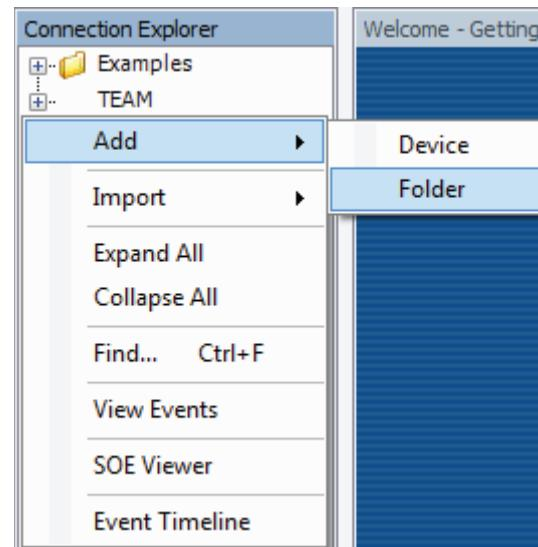
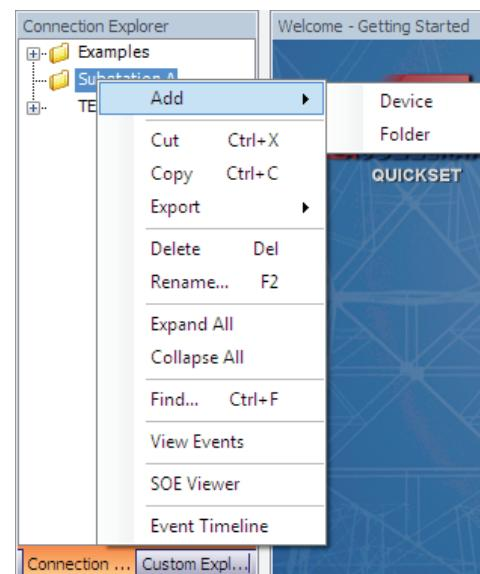

Figure 19 Add Folder in Connection Explorer
Figure 21 Add Device in Connection Explorer
Step 3. Right-click in the Connection Explorer and select **Add > Folder** as shown in *Figure 19*.
Step 5. Right-click on the **Substation A** folder and select **Add > Device**, as shown in *Figure 21*.
window and select **Add > Device** (*Figure 21*). To add a new substation, right-click in the **Connection Explorer** window (*Figure 19*) and select **Add > Folder**.